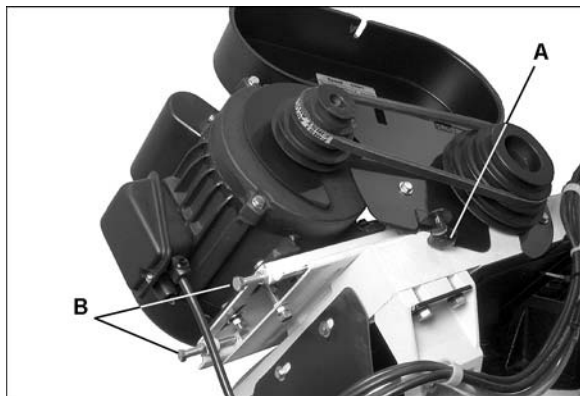

Figure 23
2. Loosen knob (A, Figure 23) and open pulley cover.
3. Reduce belt tension by turning the two screws (B, Figure 23) counterclockwise.